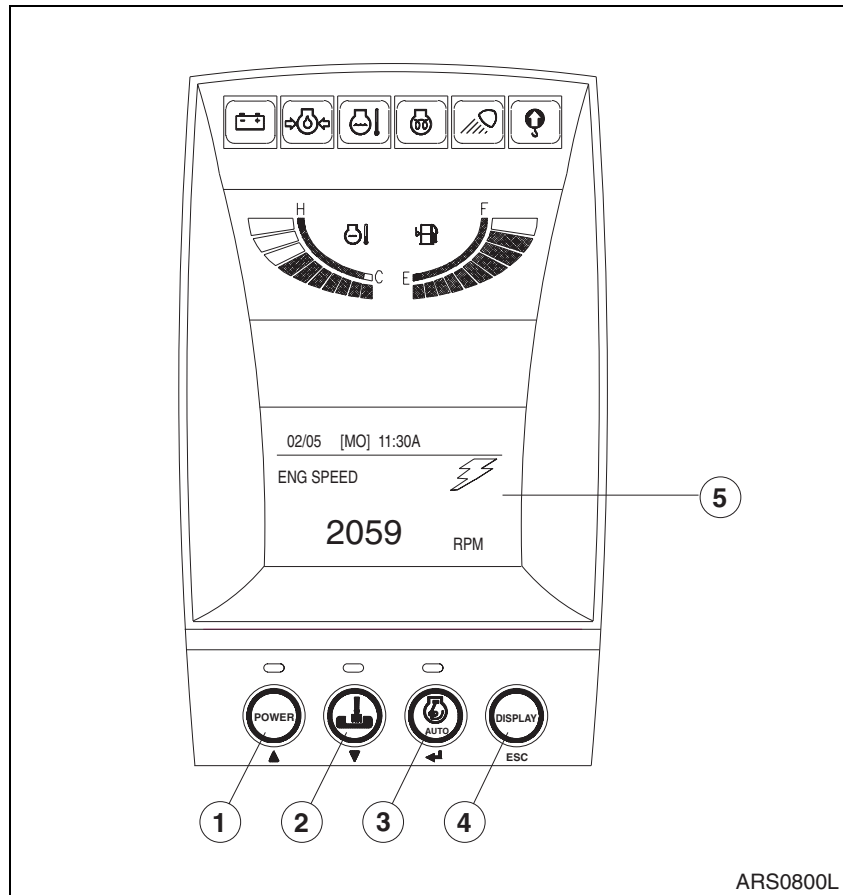

Figure 12
1. Up Arrow Button (▲, 1 on Figure 12): Move the cursor to up, left and previous screen.
2. Down Arrow Button (▼, 2 on Figure 12): Move the cursor to down, right and next screen.
3. Enter Button (↵, 3 on Figure 12): Move the menu to selected mode. When setting the menu, this button is used to function as the selector button.
4. Escape Button (ESC, 4 on Figure 12): Move a screen to previous menu or main menu.